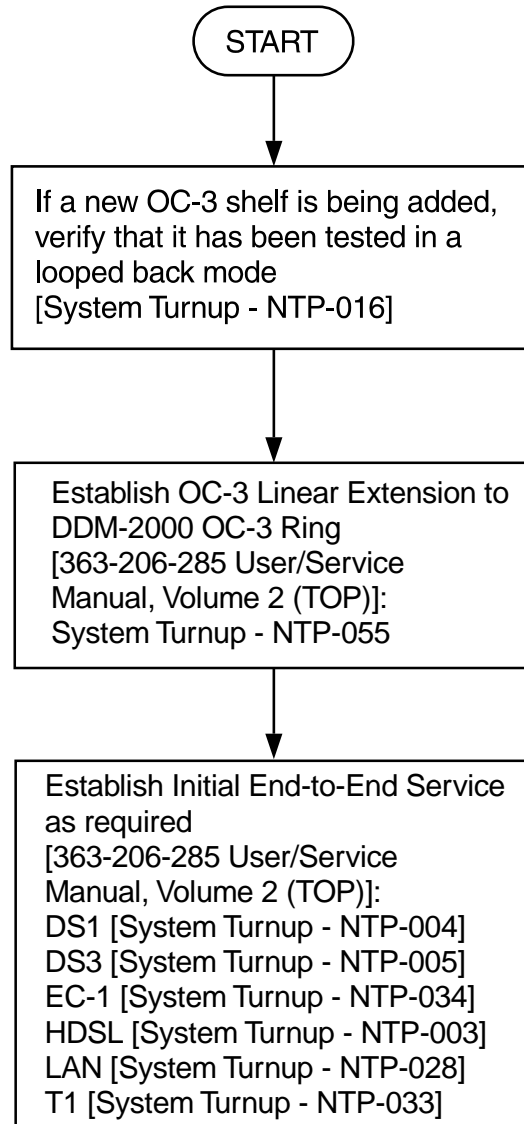

Figure 10 – DDM-2000/FT-2000 Large Network Configurations — OC-3 Shelf and/or Optical Span Added as Extension to DDM-2000 OC-3 Ring
- Figure 10 DDM-2000/FT-2000 Large Network Configurations — OC-3 Shelf and/or Optical Span Added as Extension to DDM-2000 OC-3 Ring